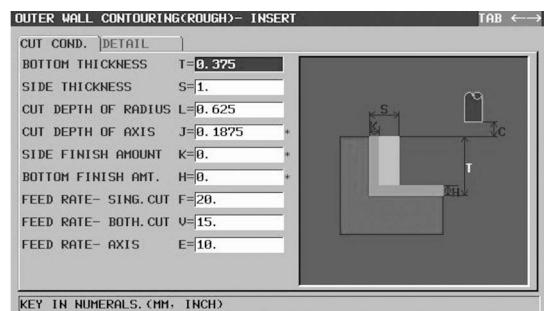
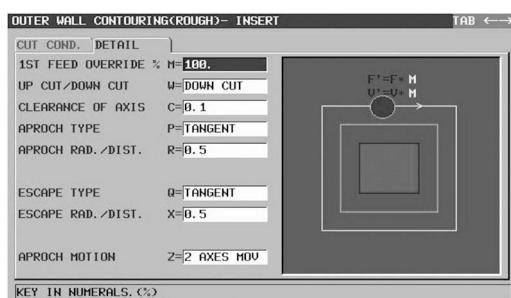

Figure 7-54 OUTER WALL CUT CONDITIONS
Figure 7-55 OUTER WALL DETAIL Dialog
- In the OUTER WALL CONTOURING (ROUGH) dialog complete the CUT CONDITIONS tab, as shown in Figure 7-54, and the DETAIL tab, as shown in Figure 7-55. Press the INSERT soft key when complete.